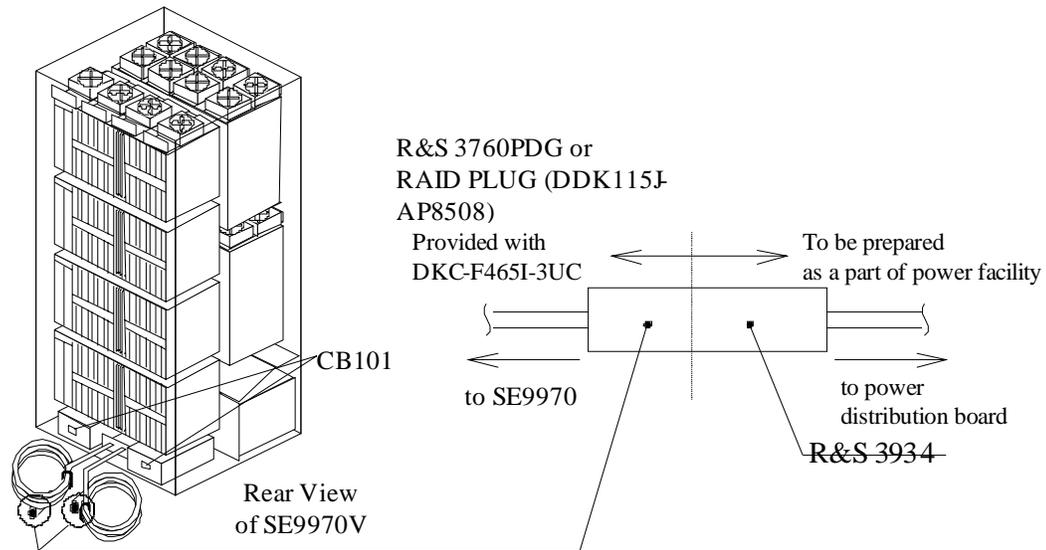

Figure 29 Power Plugs for Three-Phase Sun StorEdge 9970 System (USA)
- Figure 29 illustrates the power plugs for a three-phase Sun StorEdge 9970 system (USA).